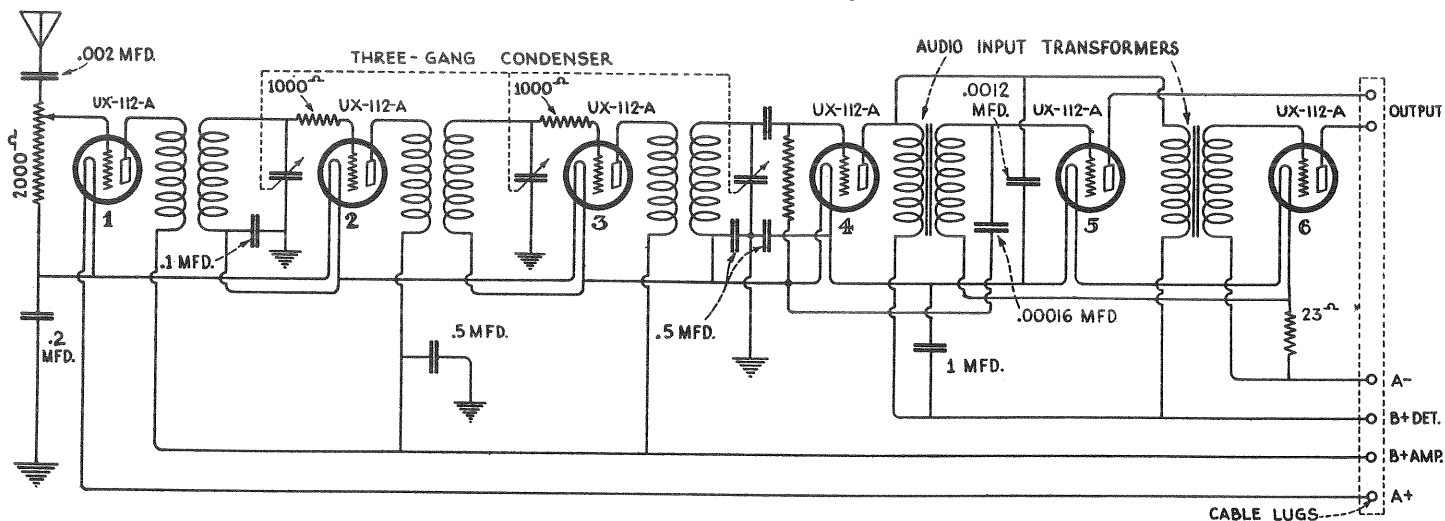

Figure 5—Schematic circuit diagram of receiver
The electrical sequence of the Radiotrons used in the receiver assembly is shown in the schematic diagram Figure 5.
- Defective grid resistor in second or third R.F. stages. The resistors may be checked by means of a resistance bridge, or the voltmeter ammeter method described in the regular Radiola 41 Service Notes. Figure 5 shows the correct value of these resistors.
When checking Radiola 41 D.C. for possible defects, it is good practice to check the voltage of the various sources of current. To do this a service man should use a good D.C. voltmeter, preferably of the high resistance type. The following voltages at the S.P.U. terminal strip are correct for the particular line voltage noted (120 volts) with all Radiotrons in operating condition and in their correct positions. The terminals are indicated in Figures 5 and 8.